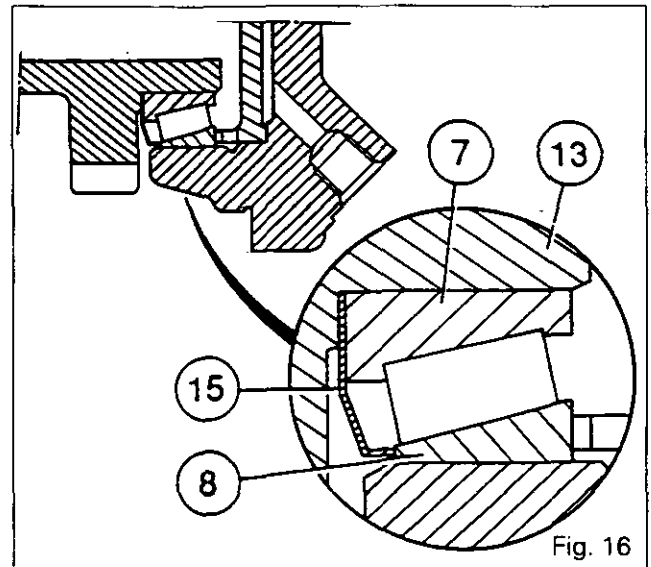

Fig. 16
Note: To obtain correct lubrication of the friction ring (30), a deflector (15) (mounted between the pinion (13) and the bearing cone (7) in contact with the cup (8) (Fig. 16).